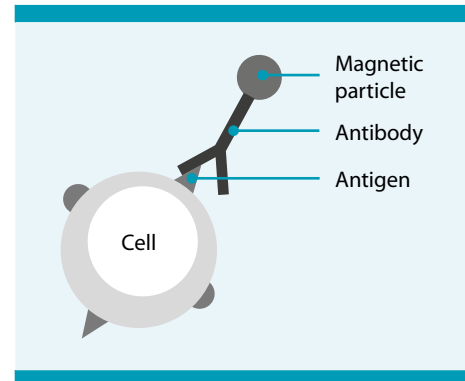

Figure 1.1: Magnetic labeling of cells
- Directly in a one-way labeling procedure by antigen-specific antibodies conjugated to super-paramagnetic iron-dextran beads (see Figure 1.1).